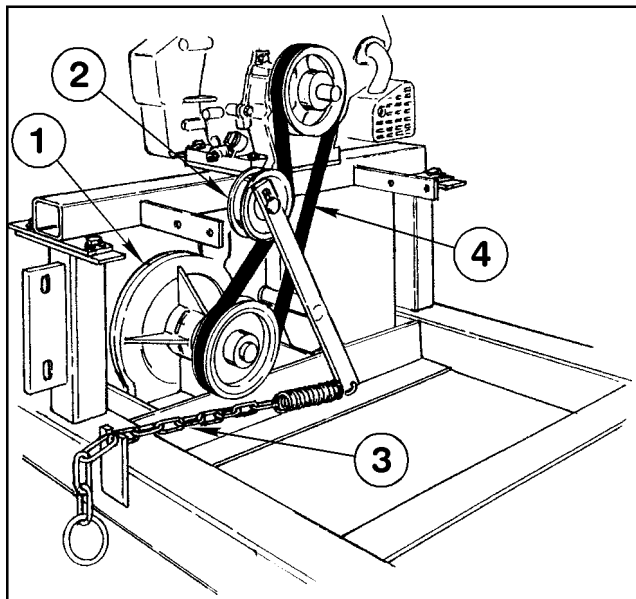

FIG. 4
1. Install the Drive Belt on the Engine and Pump Pulleys as shown in FIG. 4.
2. Pull the Idler Engagement Chain to bring the Idler Pulley into contact with the Drive Belt. At the point of resistance by the Drive Belt, pull the Chain the distance of another two links and insert that link into the lug on the Skid Frame. See FIG. 4.